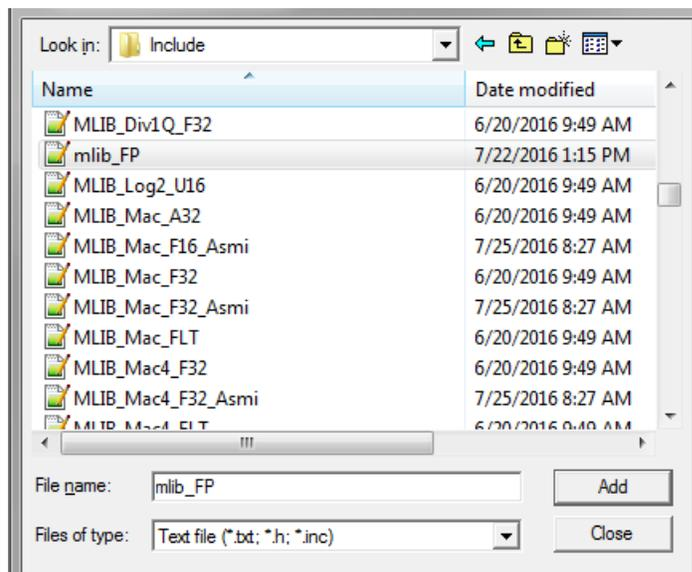

Figure 1-29. Adding .h files dialog
4. Navigate into the library installation folder C:\NXP\RTCESL\CM7F_RTCESL_4.5_KEIL\MLIB\Include, and select the *mlib_FP.h* file. If the file does not appear, set the Files of type filter to Text file. Click Add. See Figure 1-29.